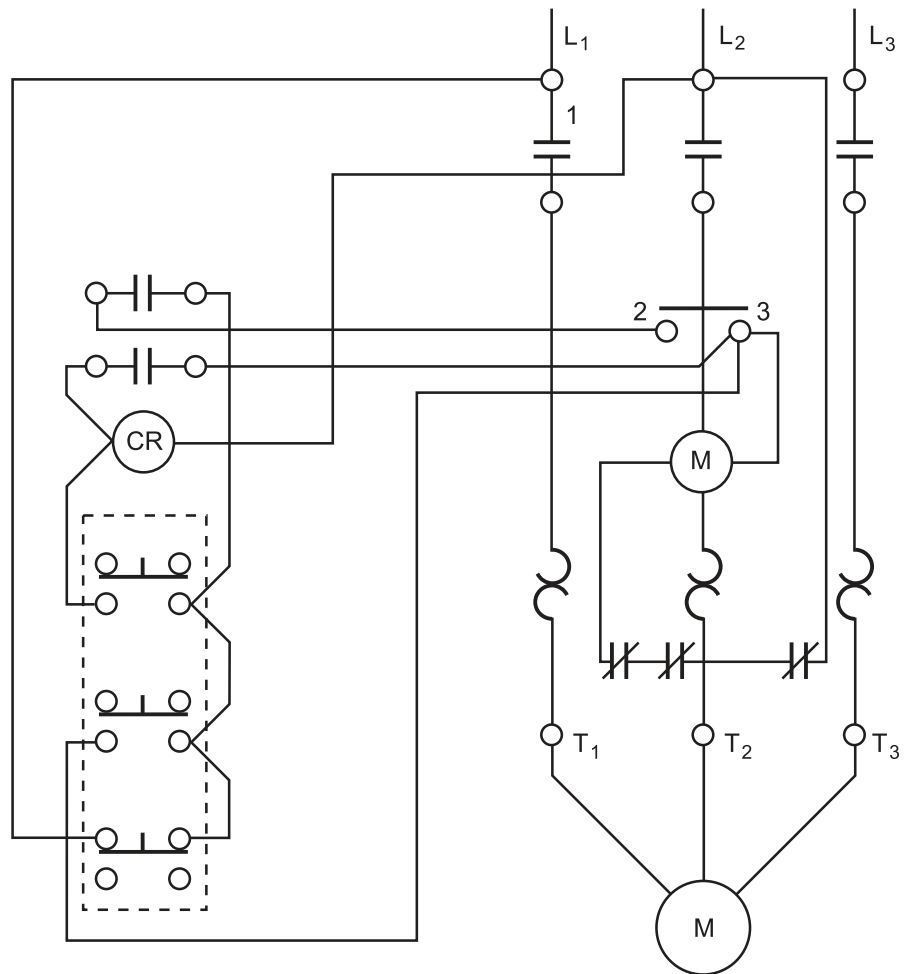

Figure 1—Circuit for Question 4
4. Using the wiring diagram in Figure 1, develop a schematic diagram for the control circuit.